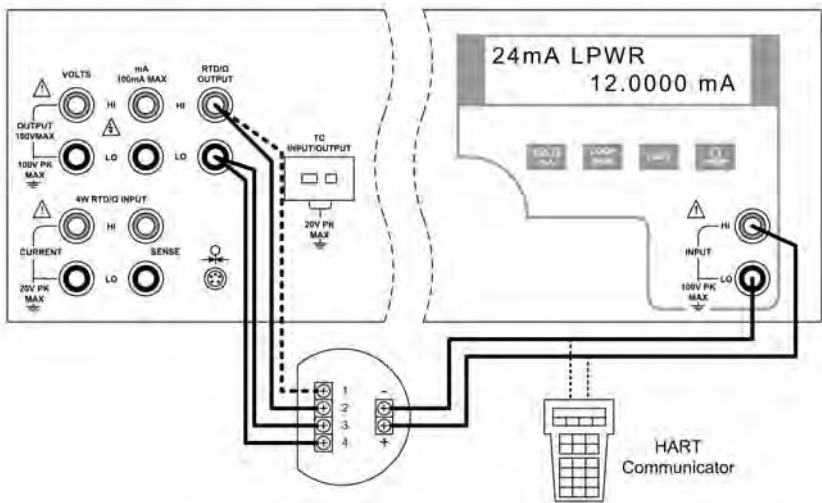

Figure 24 - RTD Transmitter Application
- 4. Connect the transmitter as shown in figure 24.